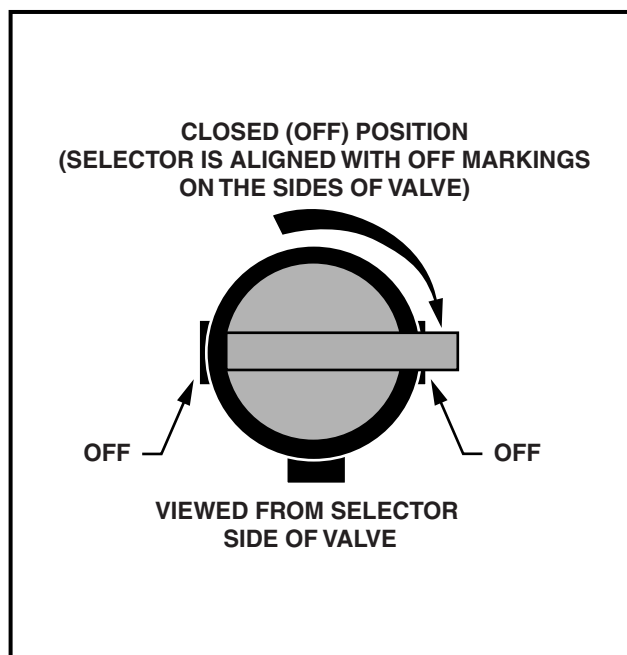

Figure 12 Fuel Shut-off Valve – Closed Position
2. Turn the key switch to the OFF position and place the Forward/Reverse handle in the NEUTRAL position. Remove the key and turn the fuel shut-off valve to the closed (OFF) position when the vehicle is not in use (**Figure 12, Page 21**). See also **Figure 18, Page 27**.
- Turn the fuel shut-off valve to the closed (OFF) position (Figure 12, Page 21).
- 3.1. Place the Forward/Reverse handle in the NEUTRAL position. Turn the fuel shut-off valve to the closed (OFF) position (**Figure 12**) and run the engine until fuel remaining in the carburetor and fuel lines is depleted and the engine stalls.